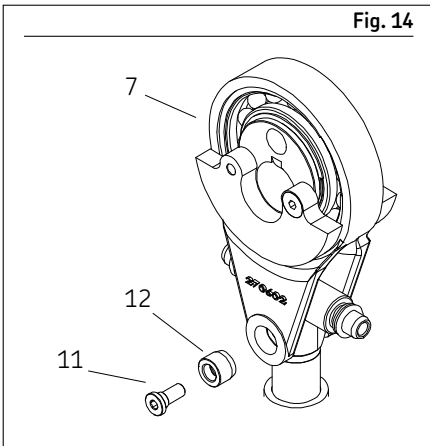

Fig. 14
- 17 Install back-up washer (15) in wrist pin anchor (13).
- 18 Place new cup seal (16) inside wrist pin anchor (13).
- 19 Clean threads of wrist pin anchor (13).
- 20 Install o-ring (14) on wrist pin anchor (13).
- 21 Insert upper bushing and plunger end (10) into wrist pin anchor (13) and tighten.
- 22 Place wrist pin anchor (13) in a vise.
- 23 Tighten wrist pin anchor (13) to torque of 20–25 ft.lbf. (27–34 Nm).
- 24 With wrist pin anchor (13) still in vise, align crankrod/eccentric assembly (7) holes with wrist pin anchor (13) holes.
- 25 Install wrist pin bushings (12) through crank rod (7) and into wrist pin anchor (13).
- 26 Apply Loctite® 242® to threads of wrist pin bushing screws (11) (→ Fig. 14, page 14).